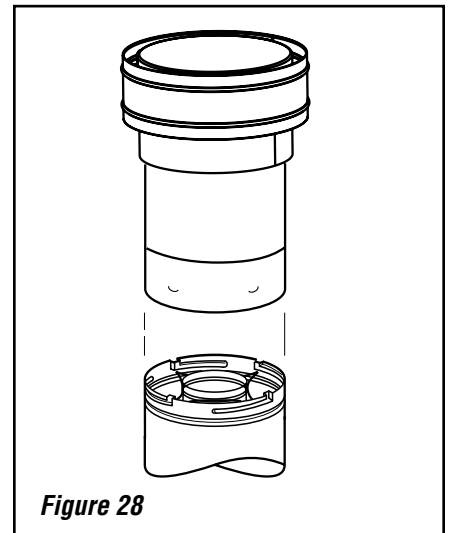

Figure 28
K. Install the vertical termination - The final step involves installation of the SV4.5CGV-1 Vertical Termination. Extend the vent sections to the height as shown in the "Vertical vent termination section" on **Page 6**. The SV4.5CGV-1 Vertical Termination (**Figure 28**) installs in the exact same fashion as any other **Secure Vent** section. Align the termination over the end of the previously installed section, adjusting the radial alignment until the four locking dimples of the termination are aligned with the inlets of the four incline channels of the last vent section. Push the termination down until it fully engages, then twist the termination clockwise running the dimples down and along the incline channels until they seat at the end of the channels.